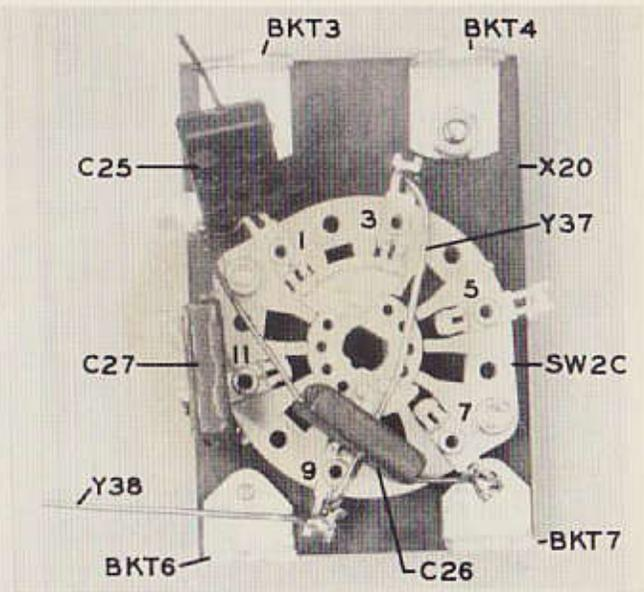

FIG. 2E COUPLING SWITCH
- (3) Place a connection between contacts 1 and 5 of SW2C (see Figure 2E). Use #18 tinned wire and bridge the connection over contact 3 and down to 5 to avoid extending any leads in front of SW2C. Solder at both contact terminals.